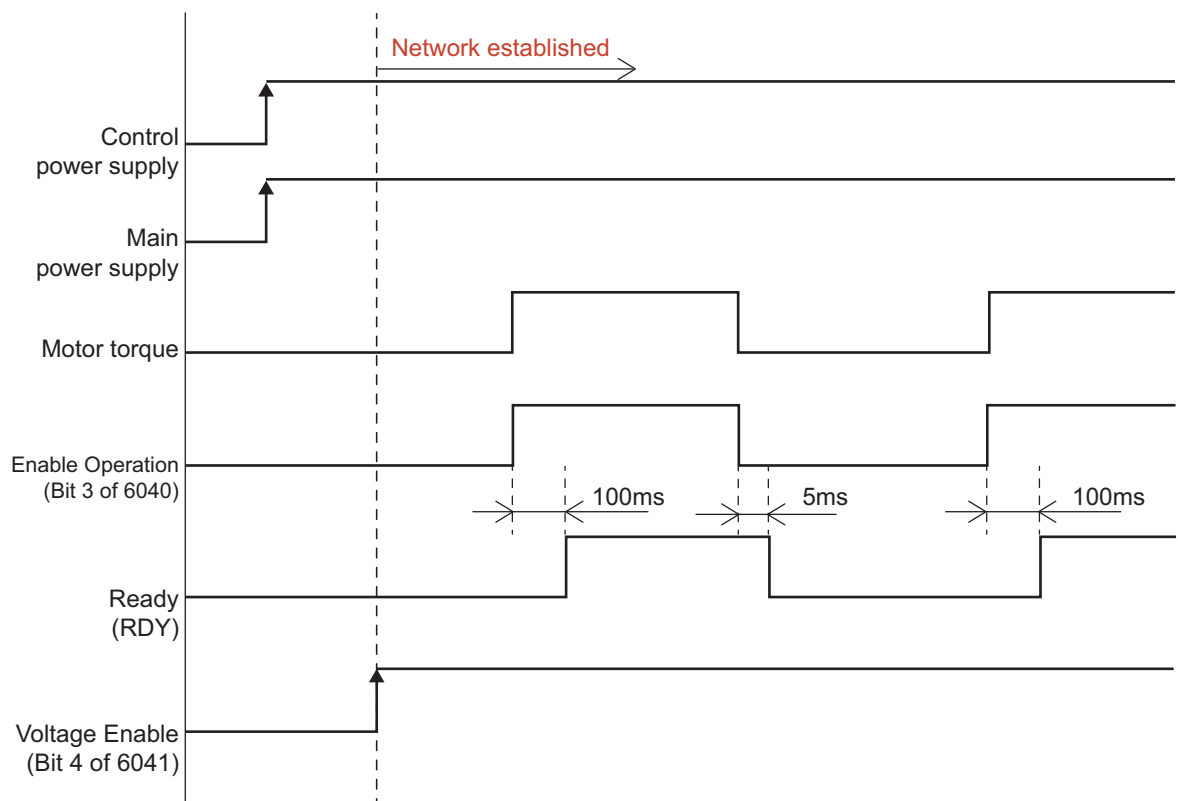

Figure 2-10 Timing chart
- c.** When using a motor with a brake, be sure to release the brake before operating the motor. If the motor is operated without releasing the brake, the motor may be burned out. Thus, pay attention to the timing, referring to "Figure 2-10 Timing chart".